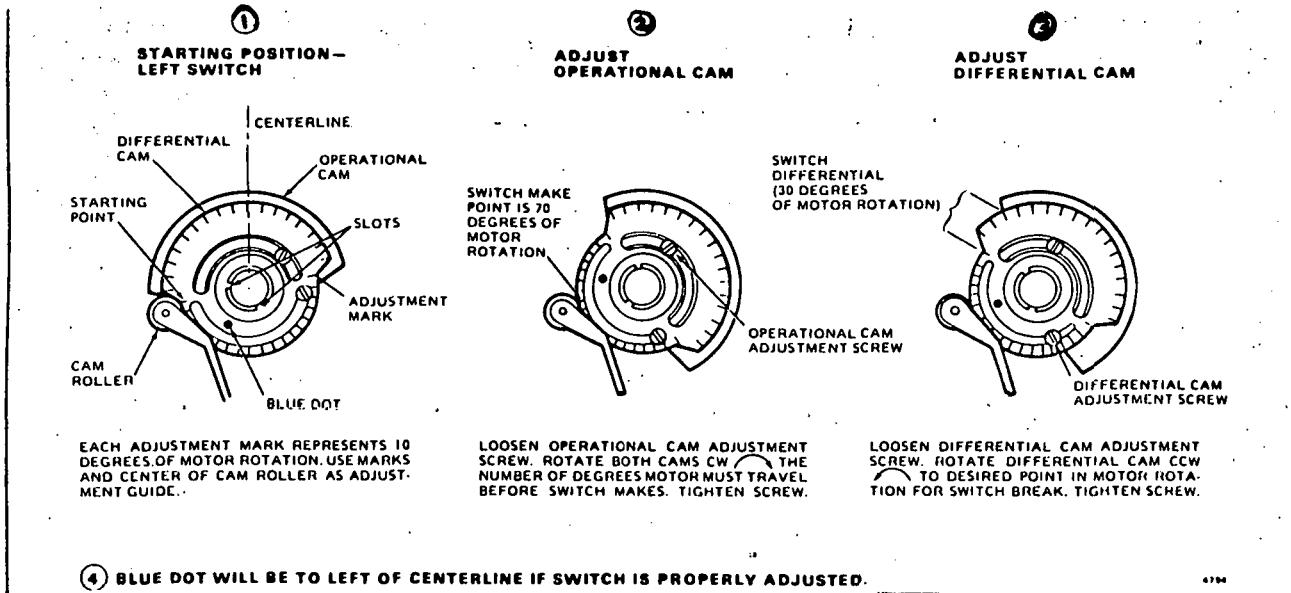

FIG. 15—ADJUST MAKE AND BREAK POINTS OF LEFT AUXILIARY SWITCH.
5. Adjust left switch (inner cam) first (Fig. 15).